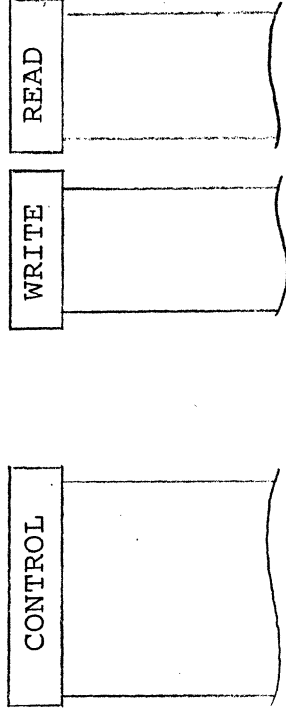

FIGURE 2-1
- (1) setting the Speed Switches to the speed of the drives,
- (2) installing the correct VCO Speed Chip, and
- (3) checking the backplane priority jumpers.
(4) Each set of Tape Drive Adapter Paddleboards must have the proper termination (on the last drive), a Drive Select Jumper (except single drive installations), and Configuration Switch selections. Installation is complete when the system components are plugged in and interconnected. A re-check of the installation ensures that no item is overlooked. The procedures to set-up and install the controller are in the paragraphs that follow. Locations of installation features of the controller board are shown in Figure 2-1. A complete system
2.10 TAPE SPEED SELECTION. Tape drive speed information is provided to the controller by the code placed in the two speed switches and, for PE, the speed chip placed in the socket at location 2N. Two speed switches are provided for dual speed operation. The switches are located at D1 and D2 as shown in Figure 2-1. The switch module at location D1 selects the primary speed (Speed A) and the switch module at location D2 selects the alternate speed (Speed B). Table 2-1 provides the switch settings for each speed.